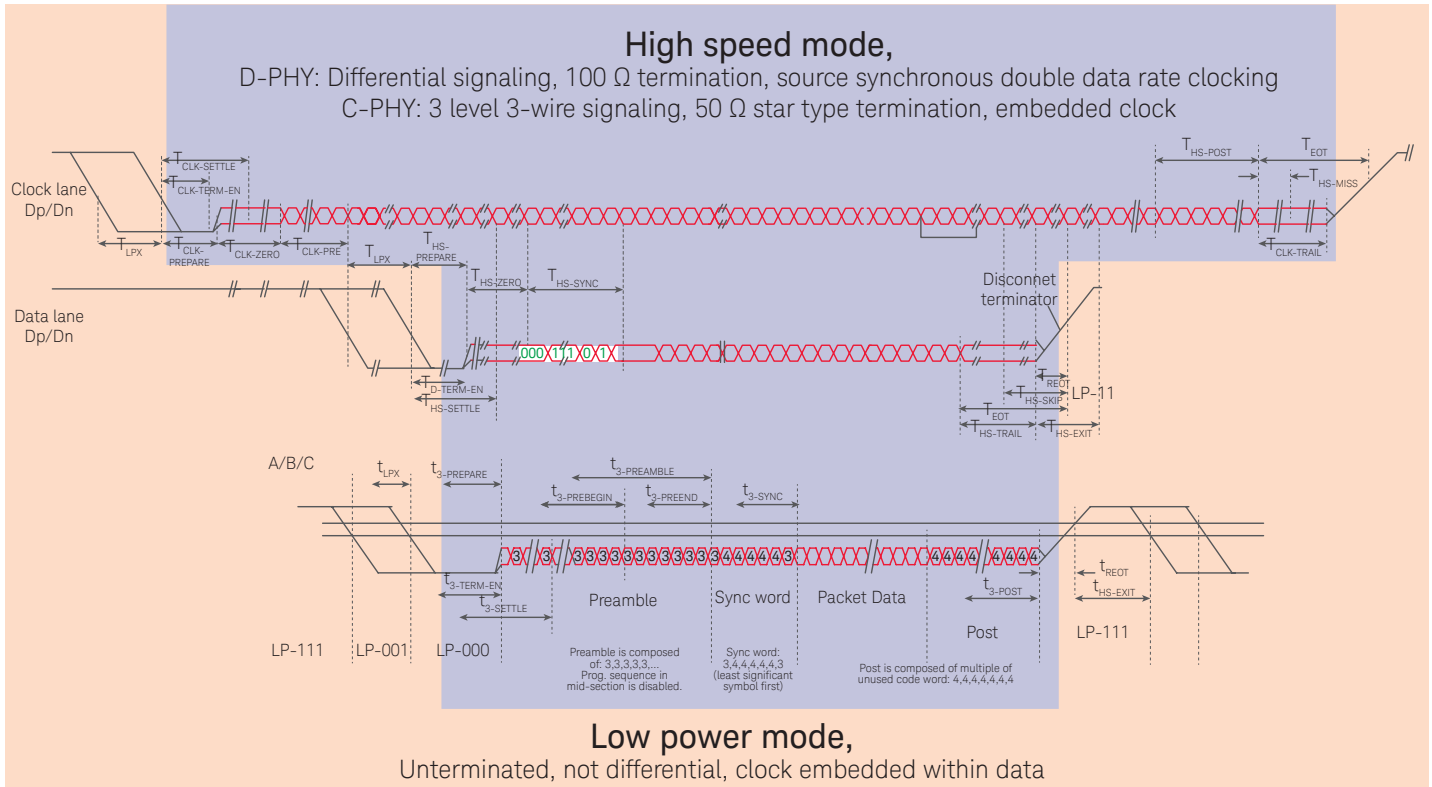

Figure 1. Timing Diagram of C-PHY and D-PHY showing transitions from Low Power Mode to High Speed Mode and back.
As depicted in Figure 1 above, the PHY-Layer standards D-PHY and C-PHY, which support the applications CSI (for camera) and DSI (for Display), use different signaling (levels and data formats) in Low Power (LP) and High Speed (HS) mode. The LP modes for these PHYs are more or less identical. However, while D-PHY uses differential NRZ format for HS-data transmission, C-PHY was brought up allowing transmission of 2.28 bits/symbol utilizing non-differential data format requiring 3-wires, 3-level transmission with a star-type resistive termination and a 16/7-bit encoding. It is obvious that the generation of the necessary test patterns is a real challenge. Traditional BERTs using NRZ pattern format cannot generate such 5-level signals required for C-PHY or 4-level signals required for D-PHY. AWGs can generate any signal; however, customers may not want to deal with the necessary generation of the waveform (vector) files.